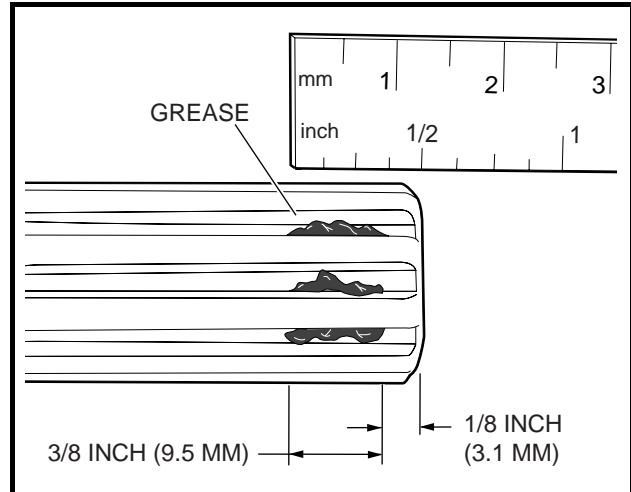

Figure 15a-15 Application of grease to Input Shaft Grooves
- 2.6. Check the chamfer and end of the input shaft to ensure these areas are completely clean of grease as shown (Figure 15a-16, Page 15a-13).